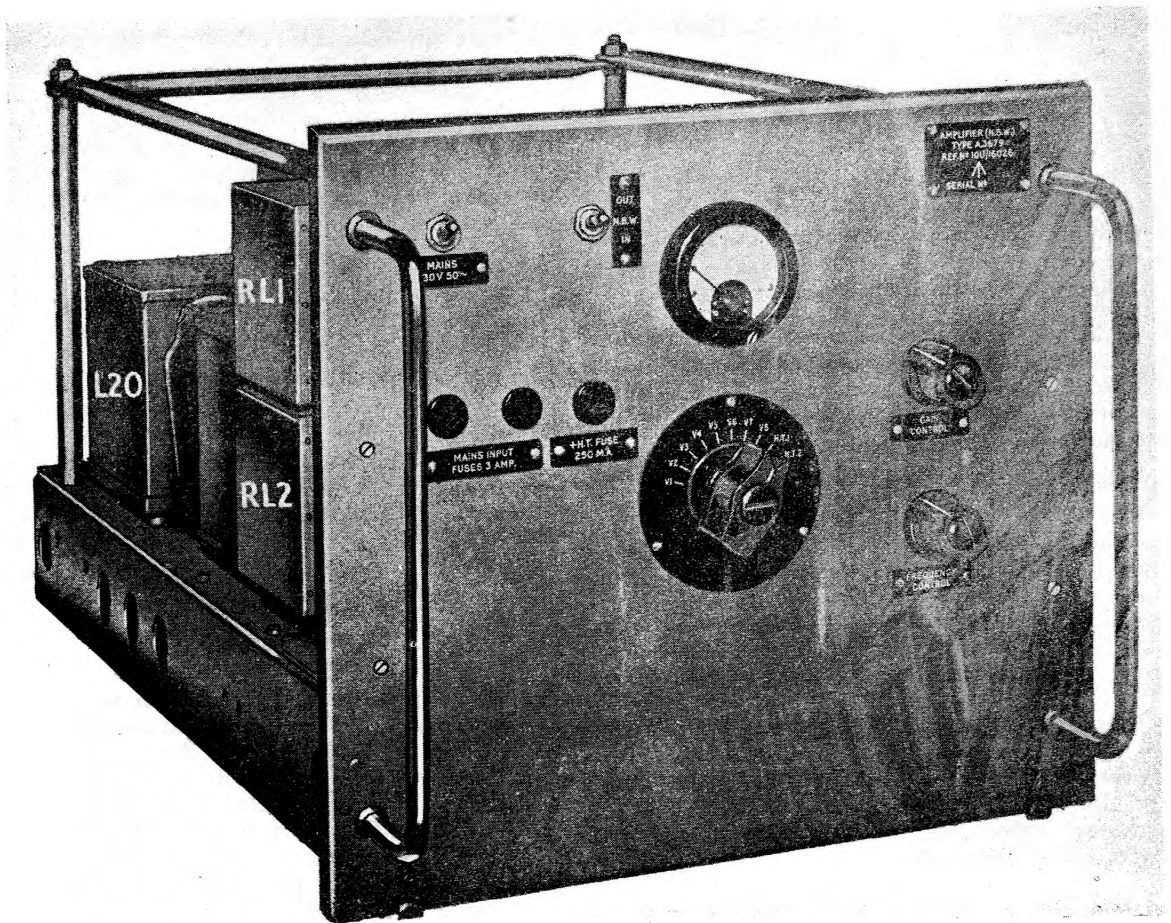
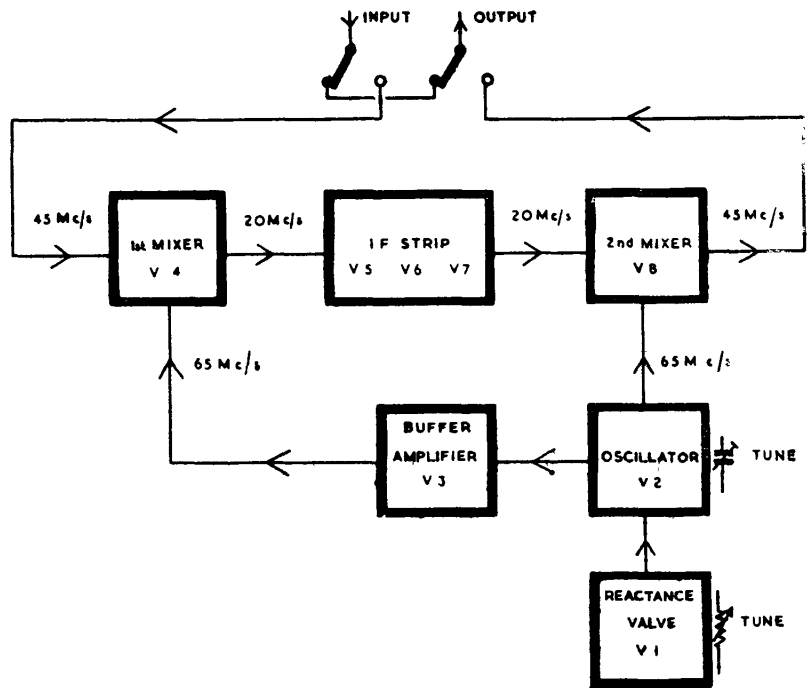
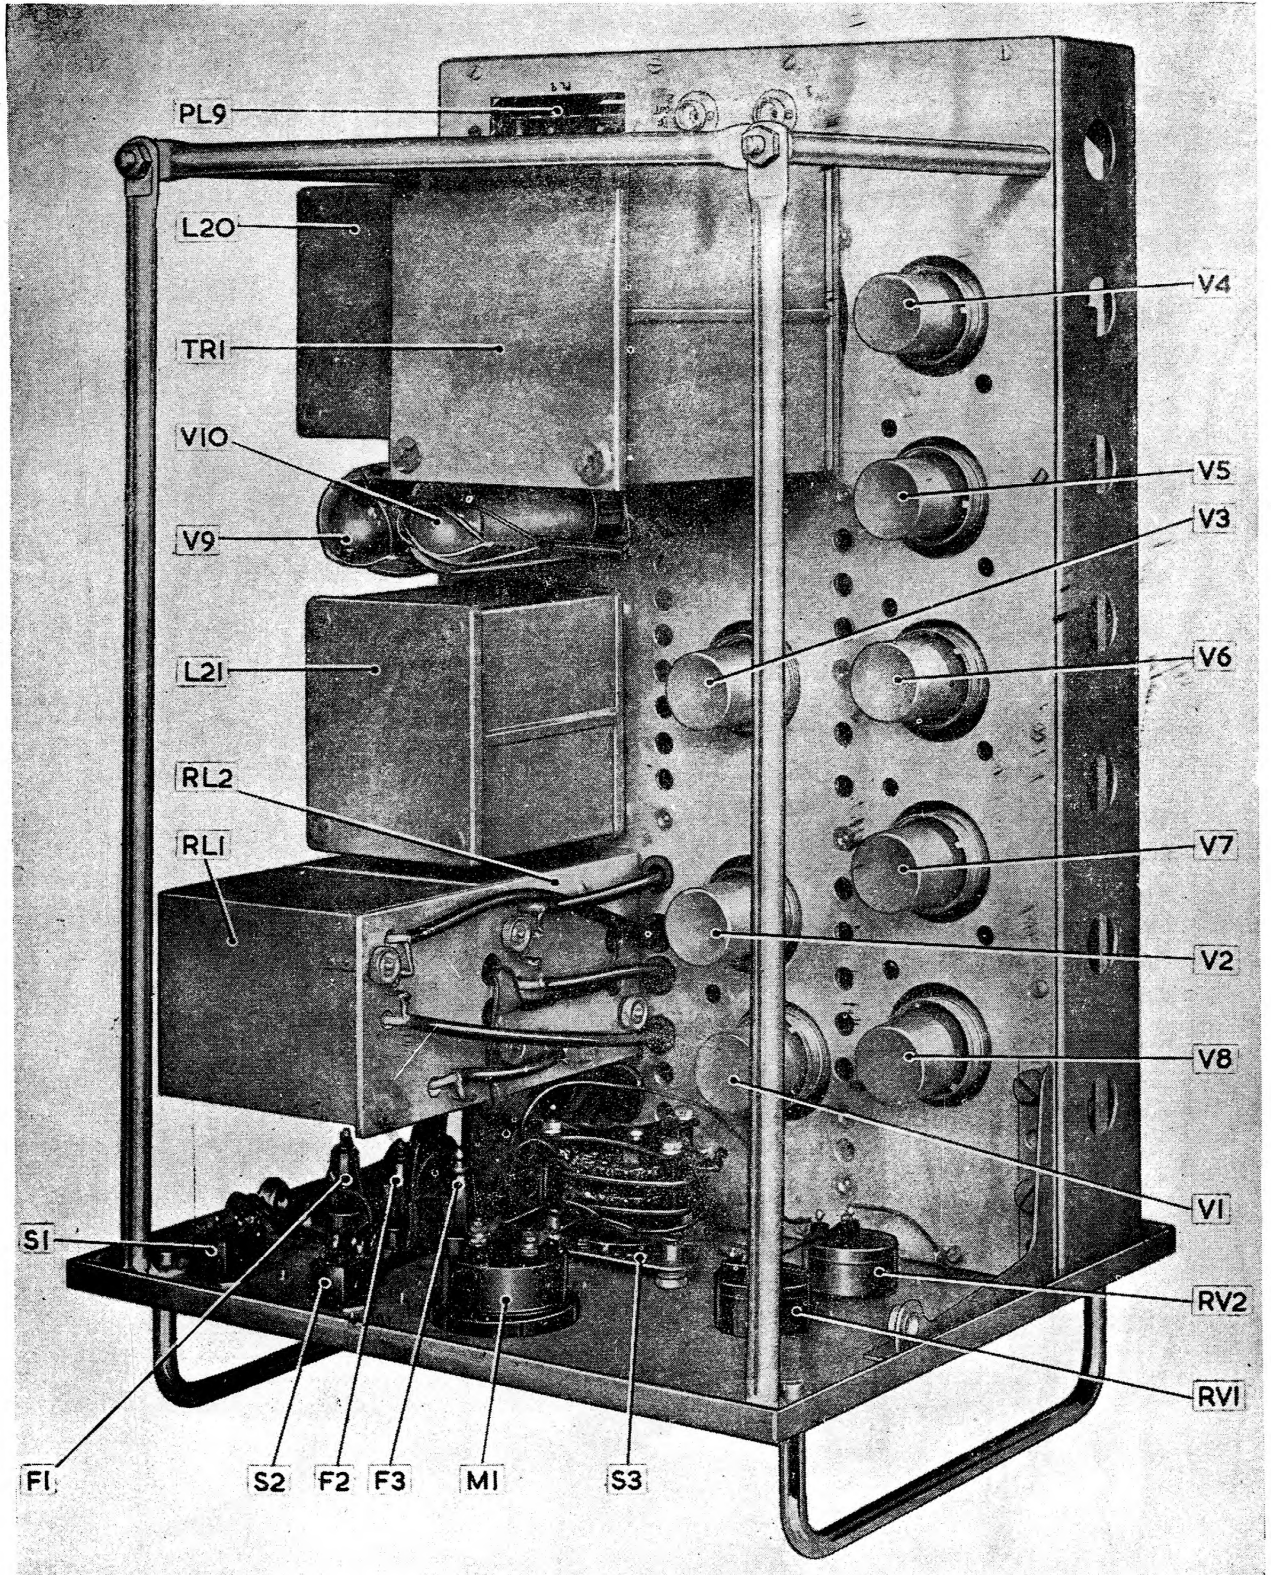
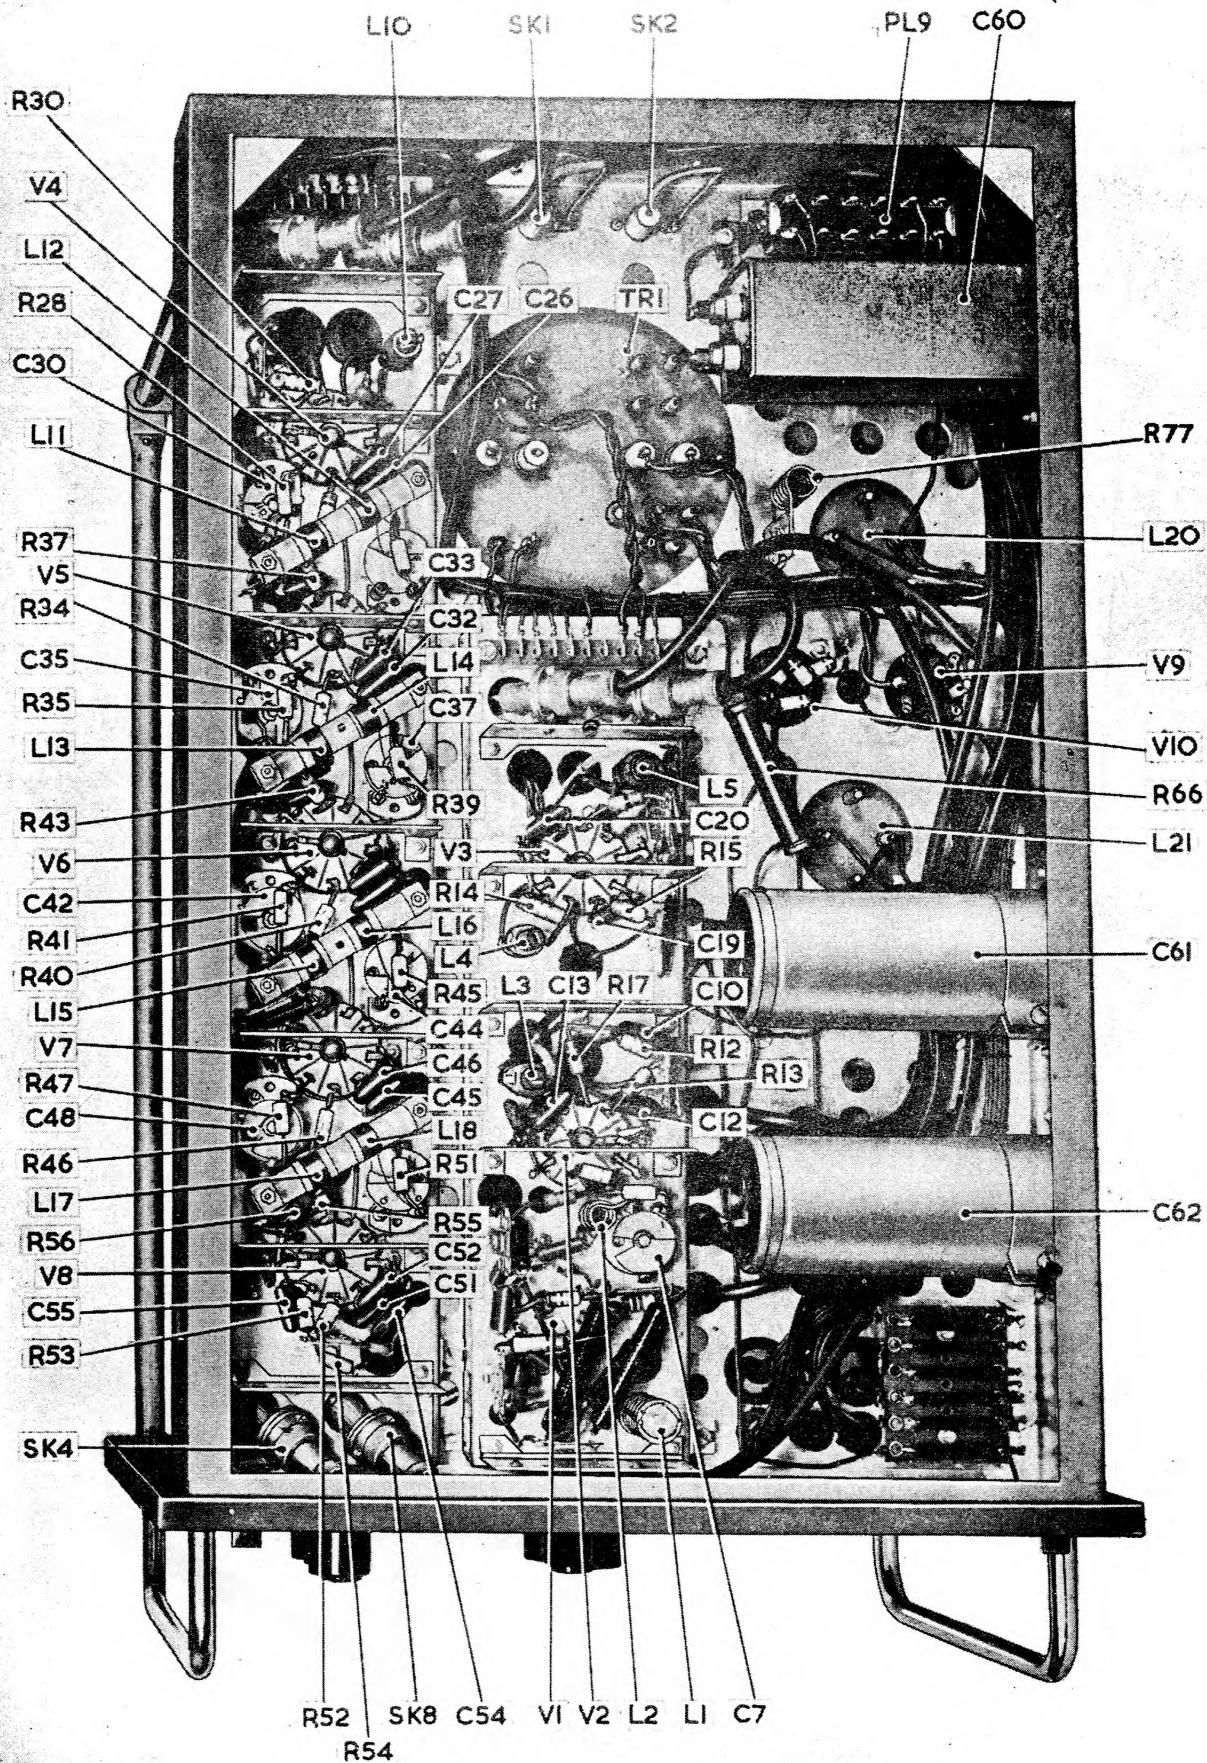

Fig. 1. Amplifier (NB-W) Type A.3679—Front panel
Fig. 2. Amplifier (NB-W) Type A.3679—Schematic
Fig. 3. Amplifier (NBW)—Type A.3679—Plan view
Fig. 4. Amplifier (NB-W) Type A.3679—Under chassis with screening cans removed
2. A front panel view of the amplifier is shown in fig. 1. Fig. 2 is a schematic, fig. 3 a plan view and fig. 4 an under-chassis view, with screening cans removed. Fig. 5 is the circuit diagram.